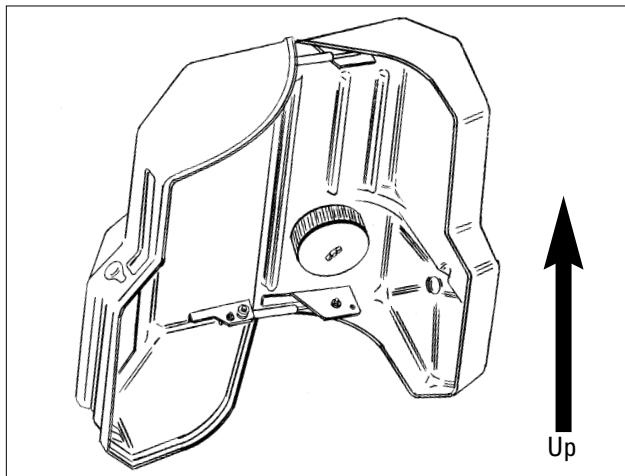

Figure 1 – Stand unit on end and open
5. Stand the Enclosure on end in the middle of the work area (fig. 1).